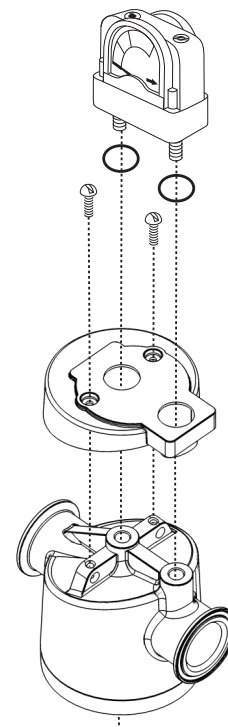

Figure 1.2
D. Differential Pressure Gauge Mounting to Filter Head (Figure 1.2)
- (1) Make certain O-rings are in place on the bottom of the gauge body.
- (2) Connect the low pressure transmission bolt (bolt next to the red band on the indicator) to the port at the filter outlet (downstream side of filter).
- (3) Connect the high pressure transmission bolt (bolt next to the Green band on the indicator) to the port at the filter inlet (upstream side of the filter).
- (4) Use a coin or a flat head screwdriver to tighten/loosen bolts. The tip width if the screwdriver should be at least 3/8 inch (9.5 mm). Torque bolts to 25 ± 5 inch-oz. **DO NOT OVER TIGHTEN**